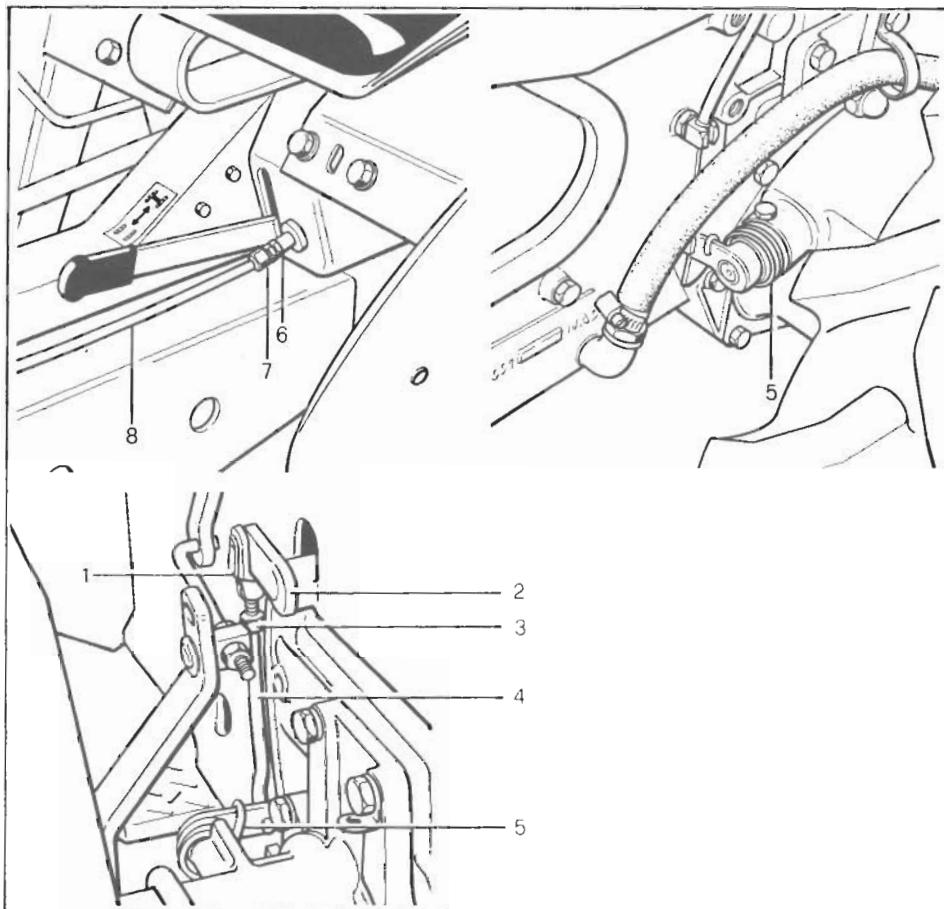

Fig. 22 - Bild 22
Se necessario aumentare il carico della molla di richiamo (fig. 22, particolare 5) nel modo seguente:
*If needed, increase the return spring load (fig. 22, part 5). The step/by/step procedure is as described:*
1. Take off fork (1) from lever (2) located on the actuator holder.
2. Unloose jam nut (3) securing fork (1) to the lock tie-bar (4).
3. Screw fork (1) on tie-bar (4) as necessary, then re-tighten jam nut (3).
4. Mount fork (1) to lever (2) and make sure that the control allows the differential to be fully released.
Augmenter au besoin la charge du ressort de rappel (fig. 22, détail 5) dans l'ordre suivant:
Falls erforderlich, die Belastung der Rückzufeder (Bild 22, Detail 5) wie folgt erhöhen: